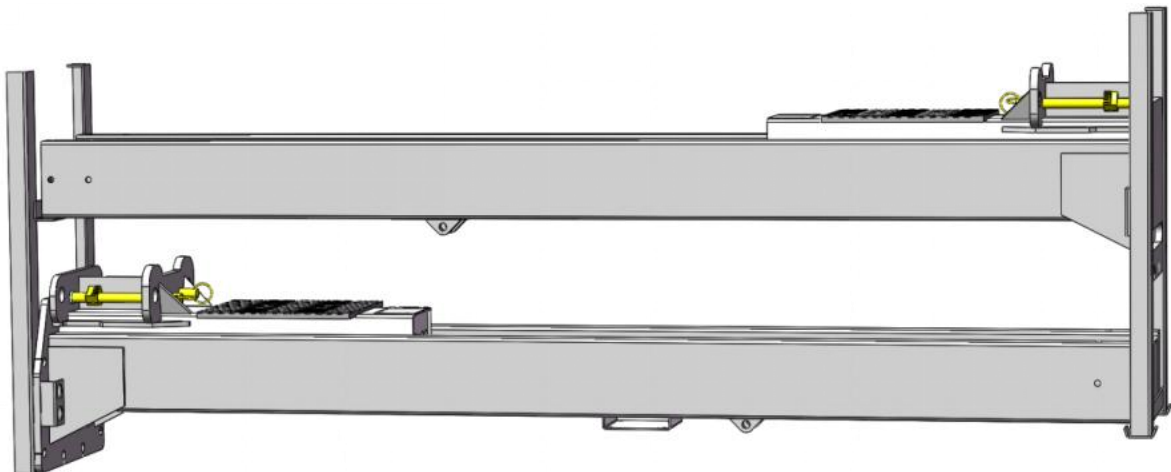

Fig. 12
3. Take out 2pcs outer column, then move them aside to the installation position. **(See Fig. 12).**